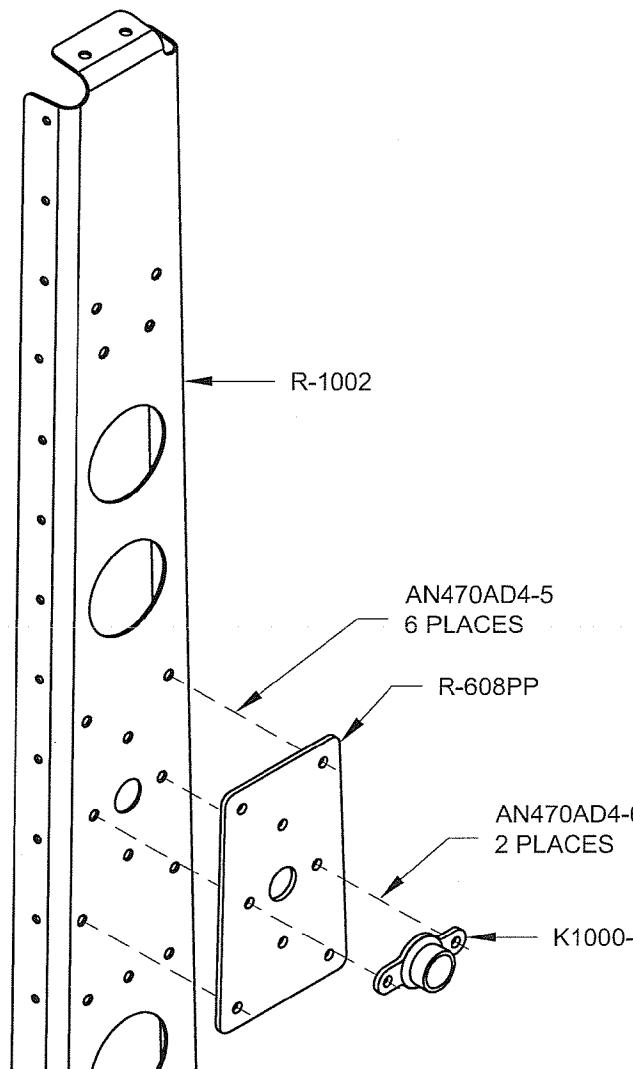

**FIGURE 1: BOTTOM RIB AND HORN RIVETS**
Step 1: Rivet together the R-1004A & B Bottom Rib halves using the rivets in Figure 1.